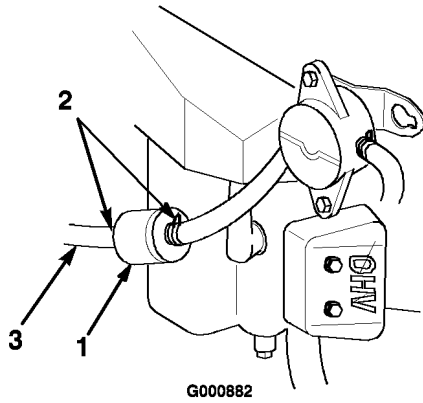

Figure 33
5. Loosen the hose clamp at the fuel filter and slide it up the fuel line away from the fuel filter (Figure 33).
6. Pull the fuel line off of the fuel filter (Figure 33).
4. Squeeze the ends of the hose clamps together and slide them away from the filter (Figure 33).
6. Install a new filter and move the hose clamps close to the filter (Figure 33).